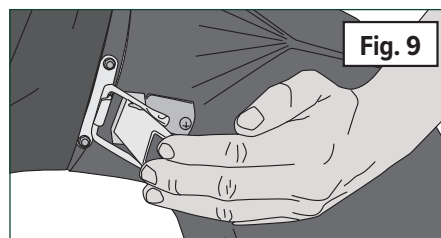

Fig. 9
3. **(Fig. 9)** Connect the MDA collar to the MDA and secure with the latches.
2. **(Fig. 9)** Connect the collector bag collar onto the top of the exit chute using the two quick-connect latches.